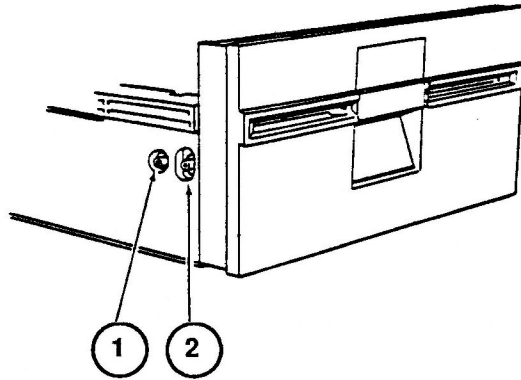

FIGURE 2
1. Note the two setscrews holding the write-protect switch in place (Figure 2, #1 and #2). The switch is located on the front left side of the drive as you face the drive door. The far setscrew (Figure 2, #1) forms a pivot for the switch; the near setscrew (Figure 2, #2) sets the switch position.